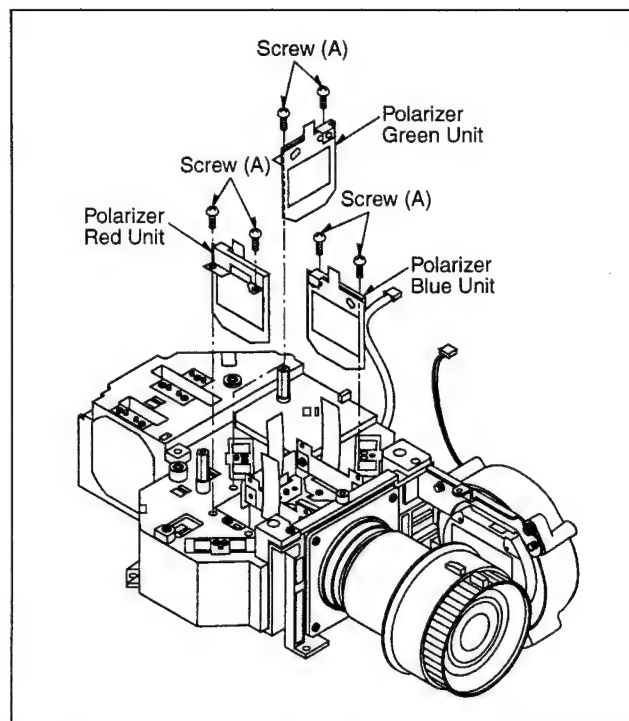

Fig. O2
1. Remove 6 screws (A) to remove the Polarizer Red Unit, the Polarizer Green unit and the Polarizer Blue Unit as shown in Fig. O2.